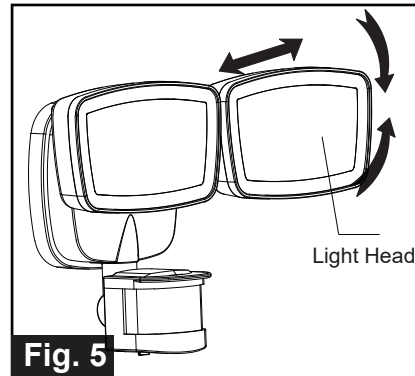

Fig. 5
1. Gently grasp the light heads and move them up or down, left or right to adjust the light coverage area. Keep the light heads at least 1” (25mm) away from the sensor.(See Fig. 5)